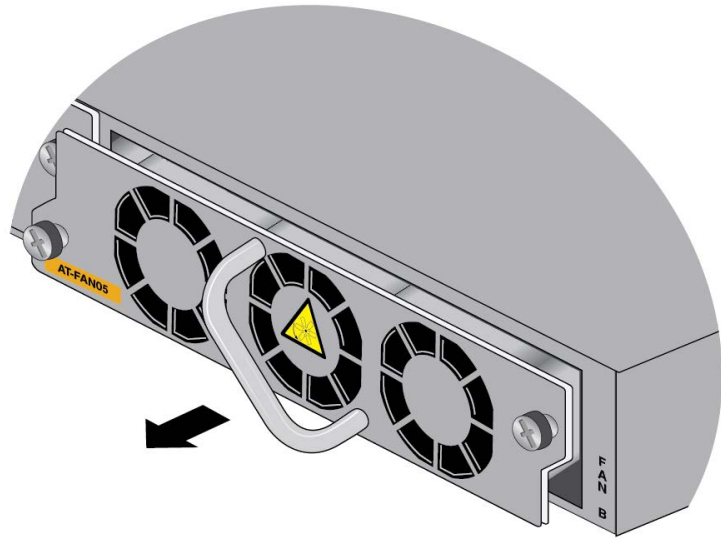

Figure 157. Disconnecting the FAN05 Module from the Switch
2. Carefully pull on the handle to disconnect the line card from the internal connector in the switch. Refer to Figure 157.